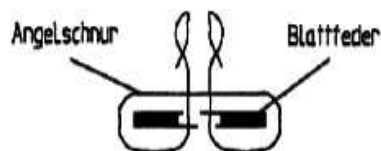

Fig. 3: Fastening the fish line on the leaf spring
- Connect the leaf spring to the hook of the force sensor by means of an approx. 5 cm-10 cm long loop as shown in Fig. 3. Now move the bosshead with leaf spring to the right until the loop is tautened and the leaf spring is minimally bent in the direction of the force sensor by the loop.